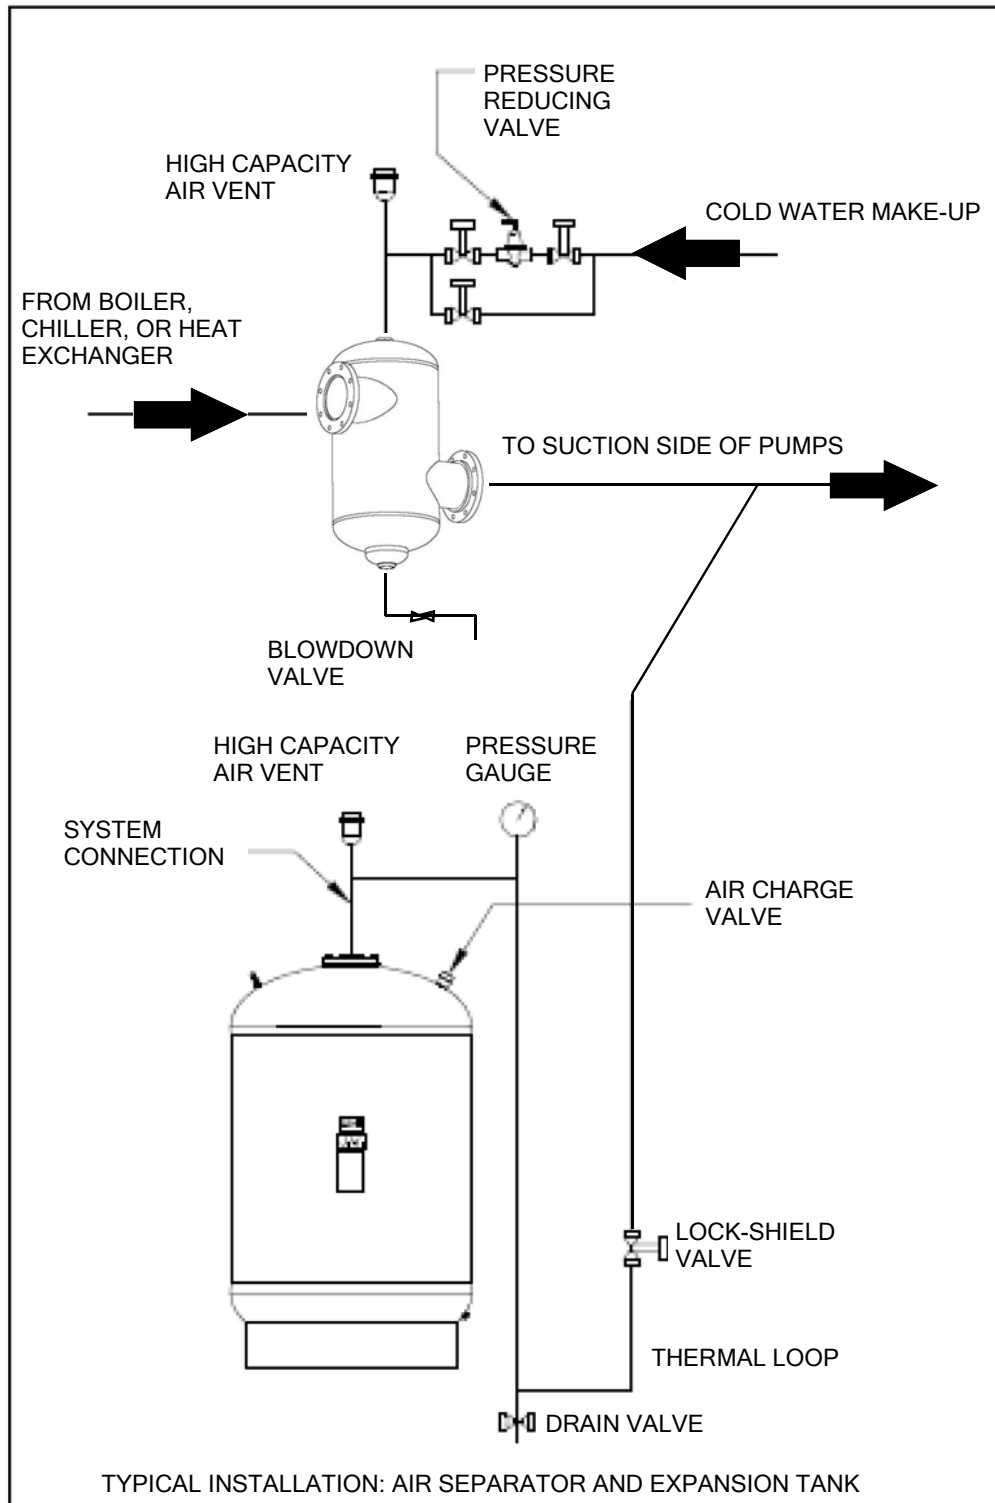

Figure 2
1. Tangential air separators are typically installed between the system boiler, chiller, or heat exchanger and the system pump. See figure 2 for the recommended installation guidelines.